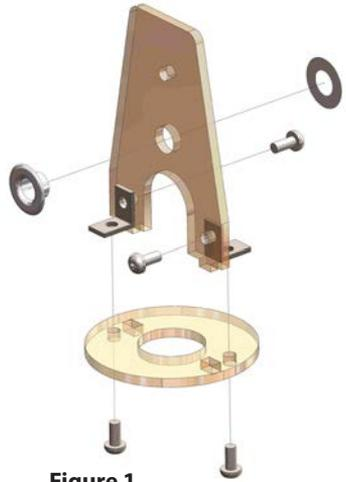

Figure 1
2. Locate the bumper brace, the two angle brackets, and two of the small machine screws. Using a Phillips screwdriver, attach the *longer* ends of the angle brackets to the bumper brace with screws (Figure 1). Note that the brackets face in opposite directions.
3. Locate the bumper ring and the other two small machine screws. Attach the bumper ring to the angle brackets with the screws (Figure 1). The completed bumper is shown in Figure 2.